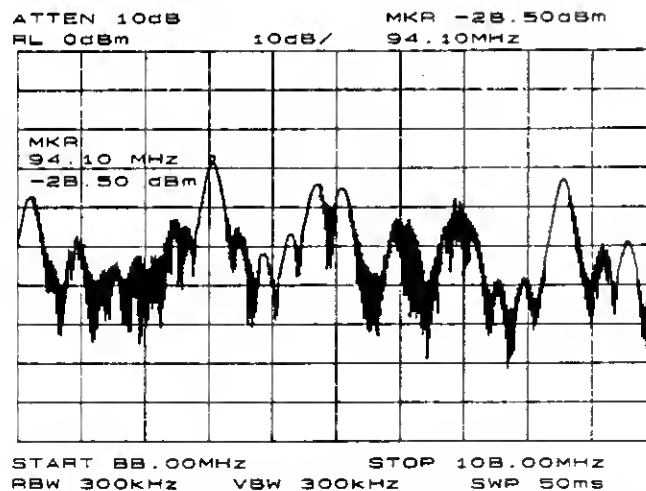

Figure 3-15. Place a marker on the signal of interest, then demodulate.
2. To demodulate an FM signal, a marker must be activated before the demodulator is turned on. For easier use, the AM/FM demodulation menu contains the marker functions. Pressing **AUX CTRL**, then **AM/FM DEMOD** will show the demodulation menu. Activate a marker by pressing **MARKER NORMAL**. Position the marker on the signal of interest. If the signal of interest is the highest in amplitude, press **PEAK SEARCH** directly, as in Figure 3-15.